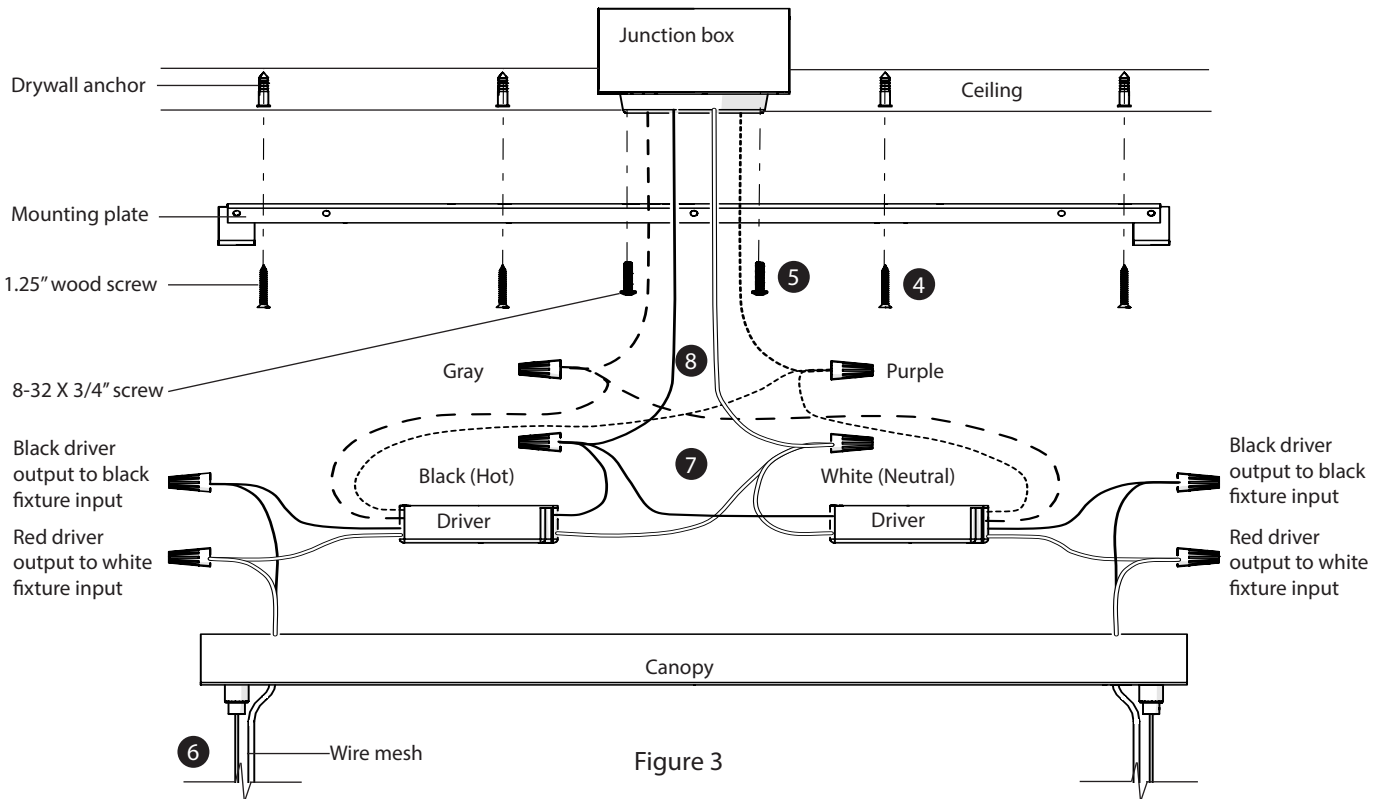

Figure 3
- 7 Pull the line voltage wires through the center hole in the mounting plate. Use wire nuts to make connections between line voltage wires, drivers, and wire assemblies (see Figure 3).